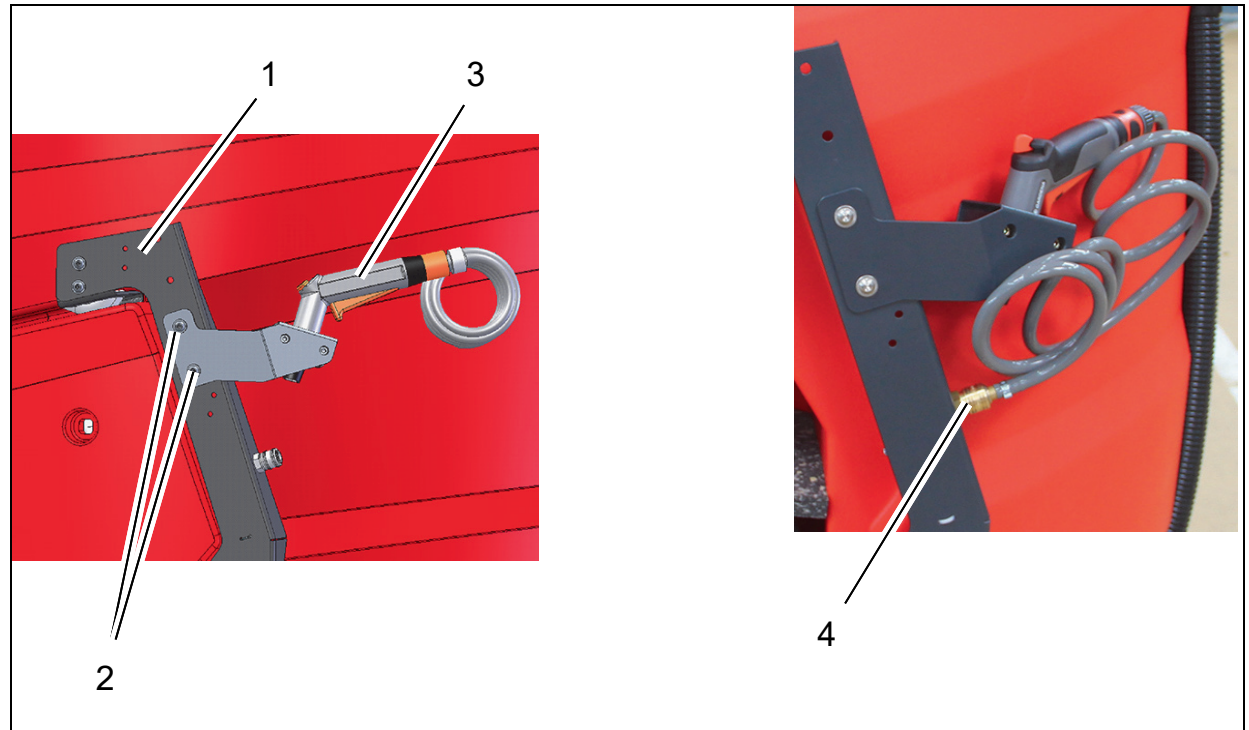

Fig. 2
1. Attach the holder (Fig. 2/1) to the tool holder using the flanged button head bolts, the washers and the nuts (Fig. 2/2).
2. Insert the spray nozzle (Fig. 2/3) into the holder.
3. Connect hose of spray nozzle to water connection of machine (Fig. 2/4).